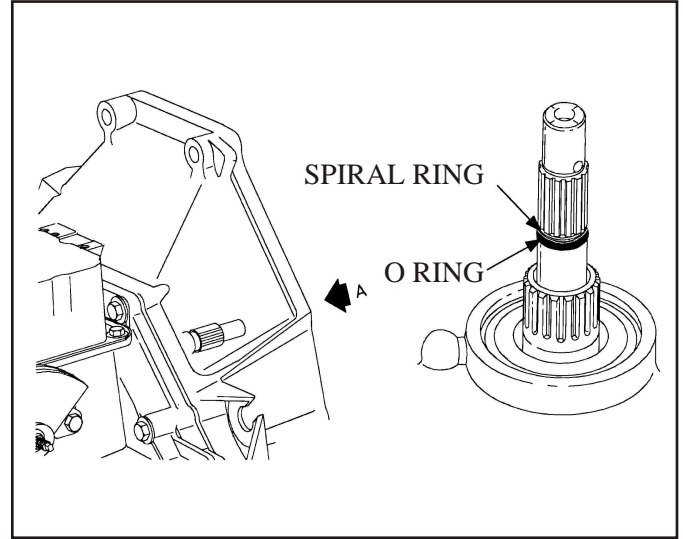

Figure 222
60. Install a new converter O ring on the input shaft. Make sure the O ring is behind the spiral ring (See Figure 222).